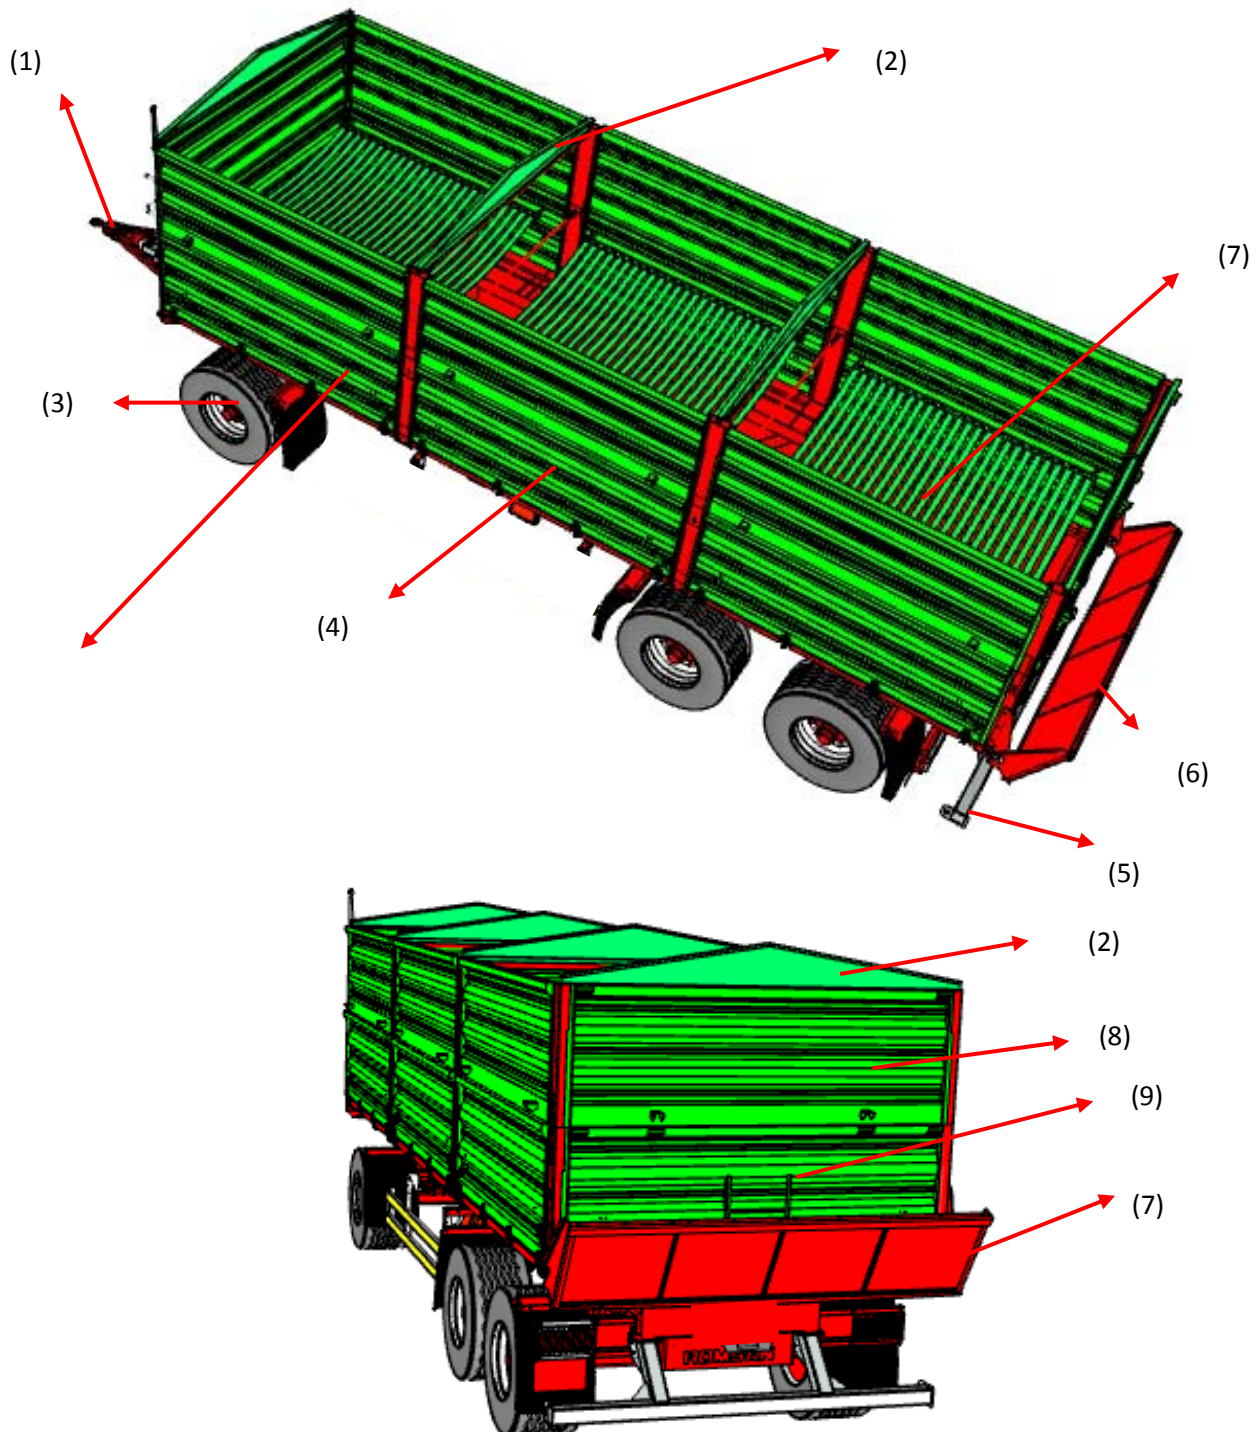
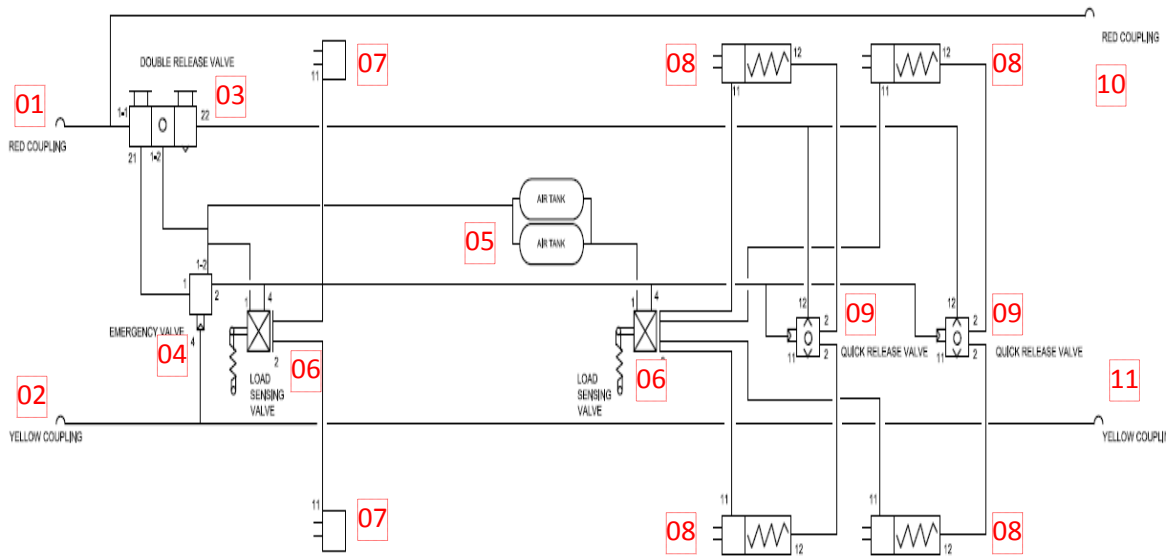

Figure 7: Load box of R200USGA
Figure 8: Dual line braking system with load sensing valve for three axle trailer.
Trailer's load box consists of: longitudinal frame (1) Figure 8 with welded steel floor, side walls, front side and rear side. As standard, the trailer is also equipped with side wall extensions of steel sheet profile and height of 500 mm. The load box is mounted on sockets of the rear and front lower beam compare with Figure 7.
The pneumatic brakes are activated from the tractor driver's cab by pressing on the brake pedal. The function of the control valve (2) - Figure 8, is the operation of the trailer's brakes simultaneously when tractor's brakes are applied. Furthermore, in case of an inadvertent disconnection of the conduit between the trailer and the tractor, the control valve will automatically activate trailer's brakes. Valve used in the system is equipped with a circuit causing the brakes to be applied when trailer is disconnected from the tractor. When compressed air conduit is connected to the tractor, the device automatically applying the brakes now changes its position to allow normal brake operation.